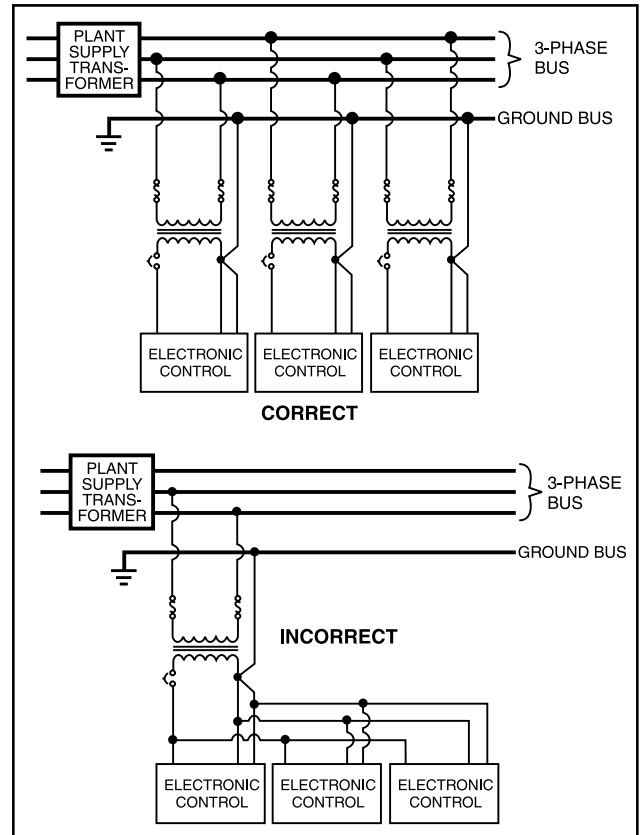

Figure 46
**Never daisy-chain or parallel-connect power or ground wires to electronic control panels.** Each electronic control panel must have its own control power supply and ground wires back to the power source (Plant Transformer). Multiple electronic control panels on the same power wires create current surges in the supply wires, which may cause controller malfunctions. Daisy-chaining ground wires, taking them to ground at each device, allows ground loop currents to flow between electronic control panels which also causes malfunctions. See Figure 46.